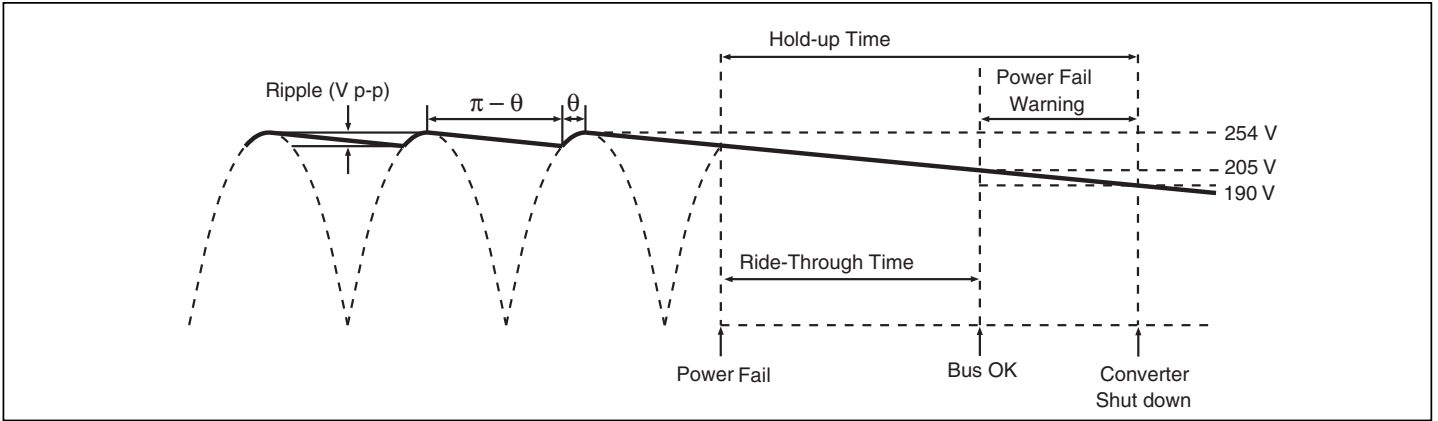
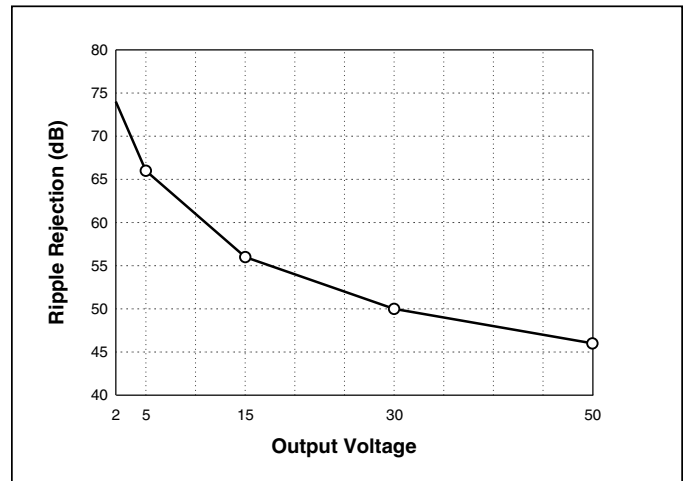

Figure 13 — Hold-up time
Figure 17 — Converter ripple rejection vs. output voltage (typical)
Hold-up Capacitors. Hold-up capacitor values should be determined according to output bus voltage ripple, power fail hold-up time, and ride-through time (see Fig. 13). Many applications require the power supply to maintain output regulation during a momentary power failure of specified duration, i.e., the converters must hold-up or ride-through such an event while maintaining undisturbed output voltage regulation. Similarly, many of these same systems require notification of an impending power failure in order to allow time to perform an orderly shut down.
The power fail warning time (Δt) is defined as the interval between B OK and converter shut down (EN) as illustrated in Fig. 13. The Bus-OK and Enable thresholds are 205 V and 190 V, respectively. A simplified relationship between power fail warning time, operating power, and bus capacitance is obtained by inserting these constants:
For example, a converter whose output is 15 V and nominal input is 300 V will provide approximately 56 dB ripple rejection, i.e., 10 V p-p of input ripple will produce 15 mV p-p of output ripple (see Fig. 17). Equation 3 is again used to determine the required capacitance. In this case, V_1 and V_2 are the instantaneous values of bus voltage at the peaks and valleys (see Fig. 13) of the ripple, respectively. The capacitors must hold-up the bus voltage for the time interval (Δt) between peaks of the rectified line as given by:
Converter. Figure 17 is used to determine the approximate ripple rejection of the DC-DC converter and indicates a ripple rejection of approximately 60 dB for a 12 V output. Since the ripple on the bus voltage is 12 Vac and the ripple rejection of the converter is 60 dB, the output ripple of the converter due to ripple on its input (primarily 120 Hz) will be 12 mV p-p.